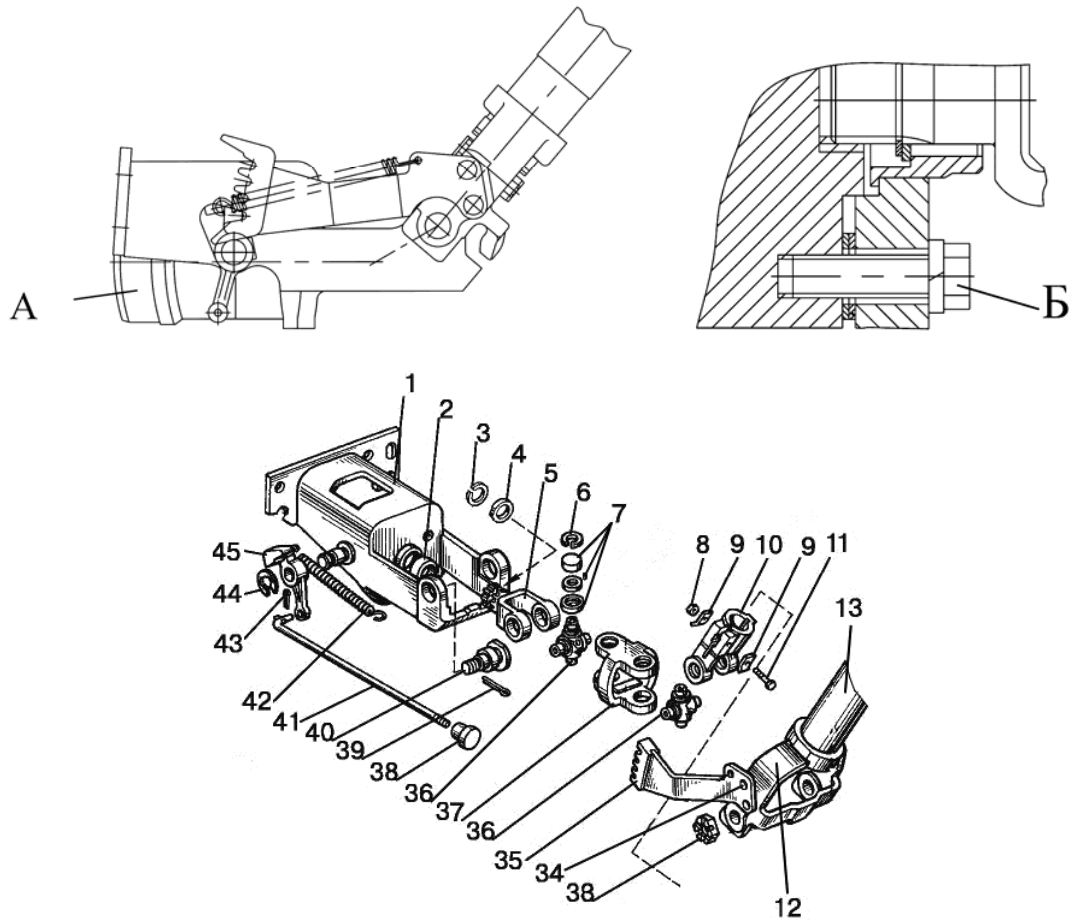

Figure 7.11
- a) unscrew screws for fastening sheath (29) to dashboard;
- b) remove cover (22), unscrew clamp (23) and pull out steering wheel (26) together with spring (30), shaft (31), sheath (29) and 2 bushings (27) and (28);
- c) insert metal rod between eyelets of yoke (10), (figure 7.11), of cardan shaft and unscrew check nut (21) by 1-2 turns using wrench S=36 mm;
- d) unbend retaining washer (9) on the side of nut (8), unscrew it and pull out bolt (11) with the second washer (9);
- e) pull baffle (46) and extract shaft (15) together with shank (16) and pin (17) from yoke (10) and pipe (13);
- g) unscrew nut (20) with check nut (21) and remove baffle (46) from pipe (13) (46);
- h) pull out of pipe (13) bushing (19) with shock absorber (18) and disconnect them;
- i) deflect yoke (10), remove washer (32) and pull out the second bushing (19) with shock absorber (18).
- k) unscrew bolts "B", (figure 7.11), and dismount metering pump "A";
- l) remove retaining ring (3) and washer (4);
- m) pull out cardan connection (5), (7), (10), (36), (37) and bushing (2);
- n) remove spring (42).